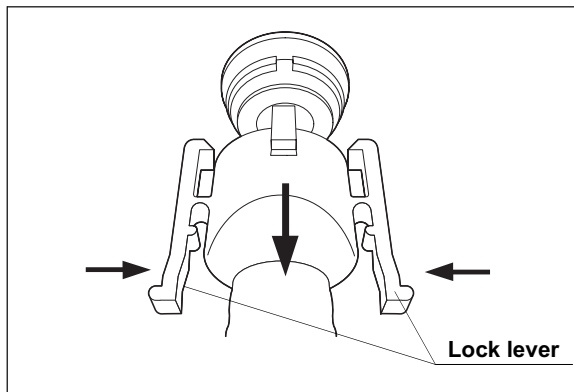

Figure 7.68
- Hold the lock levers and slowly disconnect the tube (see Figure 7.68).